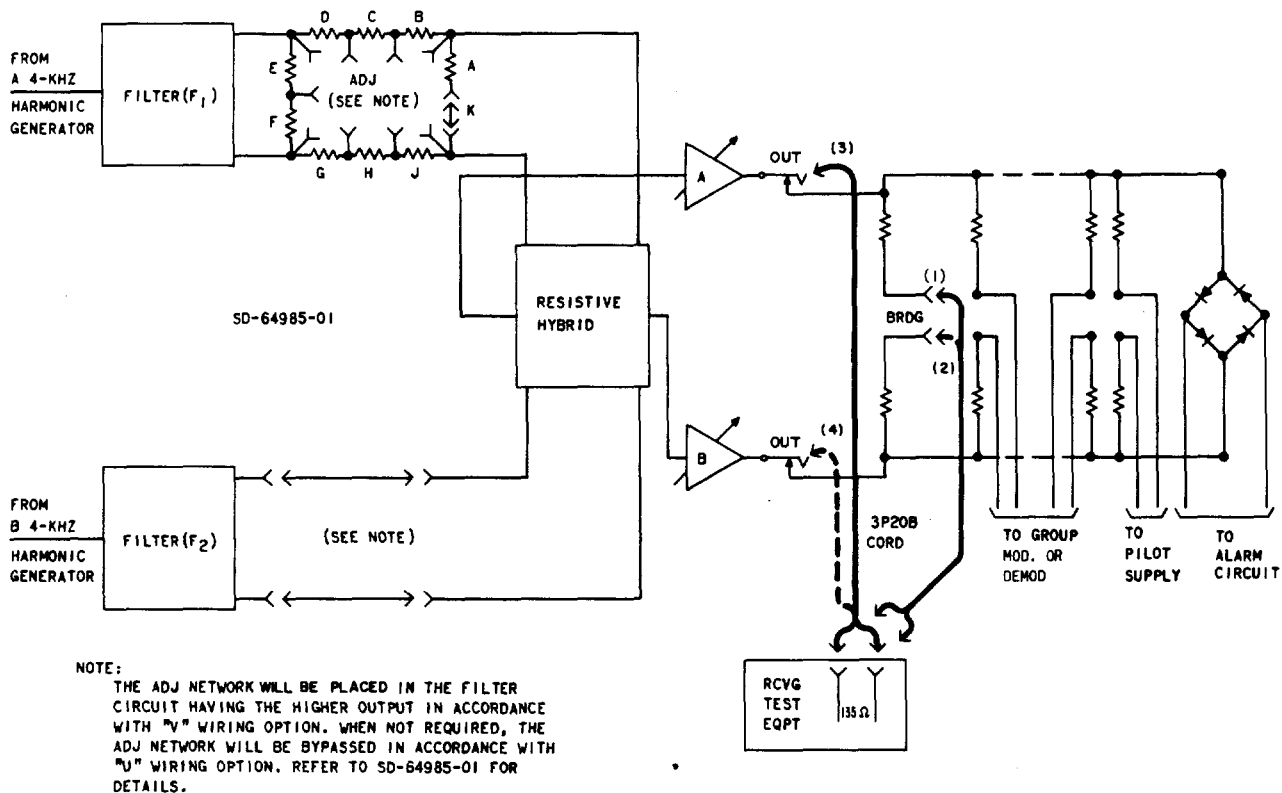

Fig. 2—Group Carrier Distributing Circuit—Measurement of Amplifier Output Power
2	Connect the RTE to the BRDG jack of the A amplifier [patch (1), Fig. 2].
5	Remove [patch (1), Fig. 2] and connect the RTE to the BRDG jack of the B amplifier [patch (2), Fig. 2].
7 If the requirement of Step 6 is met for all groups, remove [patch (2), Fig. 2] and proceed to Step 8. If it is not met, perform the tests in Chart 2.
12	Remove [patch (2), Fig. 2].
- 2 Connect the RTE to the OUT jack of the A group amplifier [patch (3), Fig. 2].
- 5 Remove [patch (3), Fig. 2] and connect the RTE to the OUT jack of the B group amplifier [patch (4), Fig. 2].
- 7 If the requirement of Step 6 is not met, adjust the amplifier GAIN control to meet the requirement. Remove [patch (4), Fig. 2].
12 Remove [patch (4), Fig. 2].